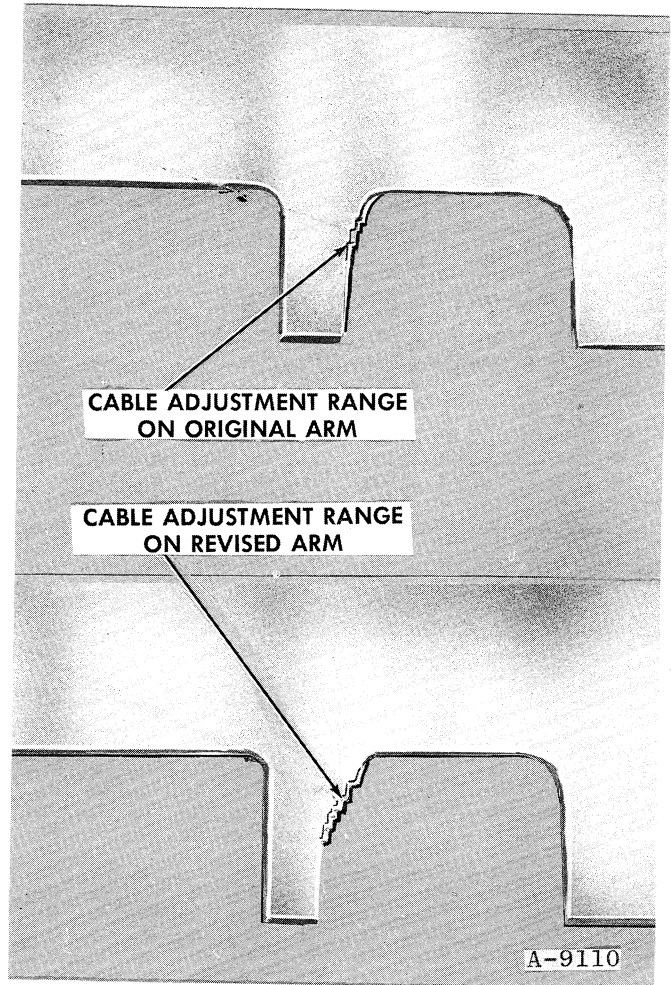

Figure 30
2. Additional steps added to the self adjusting lug of the brace for more cable take up if required. Figure 30.